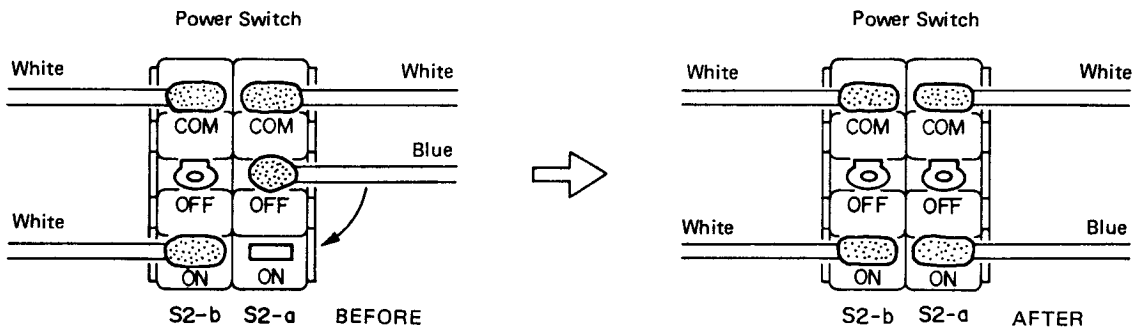

Figure 3
2. On POWER switch S2a, disconnect the blue wire from the OFF terminal, and reconnect this wire to the ON terminal, as shown in Figure 3.